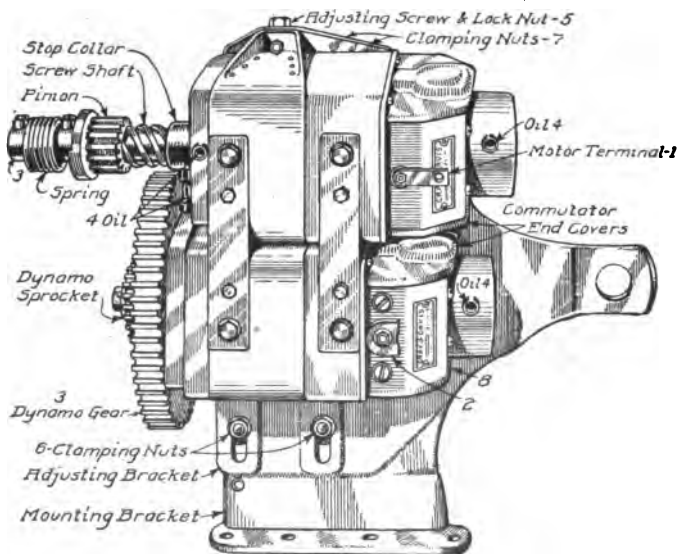

Fig. 372. Details of Gray & Davis Generator Unit for Ford Starter
**Mounting Starter-Generator.** In Fig. 372 is shown the starter-generator unit, for which note the following instructions: See that